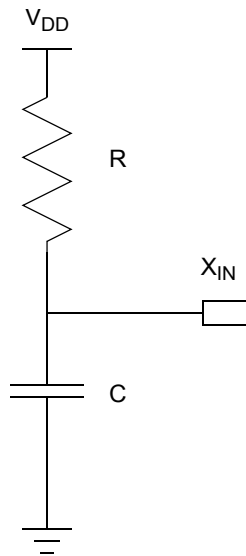

Figure 41. Connecting the On-Chip Oscillator to an External RC Network
Figure 41 displays a recommended configuration for connection with an external resistor-capacitor (RC) network.